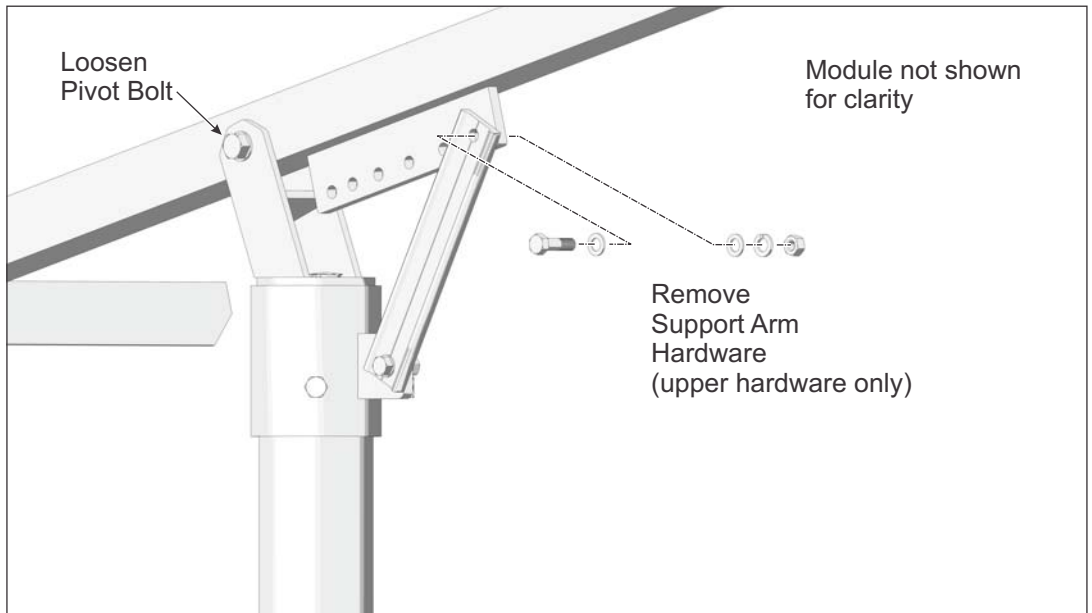

Figure 6-1: Preparing to Adjust the Tilt Angle
- A. While one person holds the south edge of rack, the other loosens the Pivot Bolt and removes the upper 3/8” hardware attaching the Support Bar to the Strongback. (See Figure 6-1)